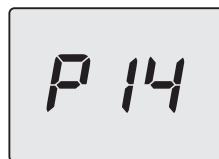

Figure 5.36
- Scroll through the various parameters by pressing the keys 13 (back) or 15 (forward), until **P14**, which alternates with the parameter value, appears on the LCD display (Figure 5.36).